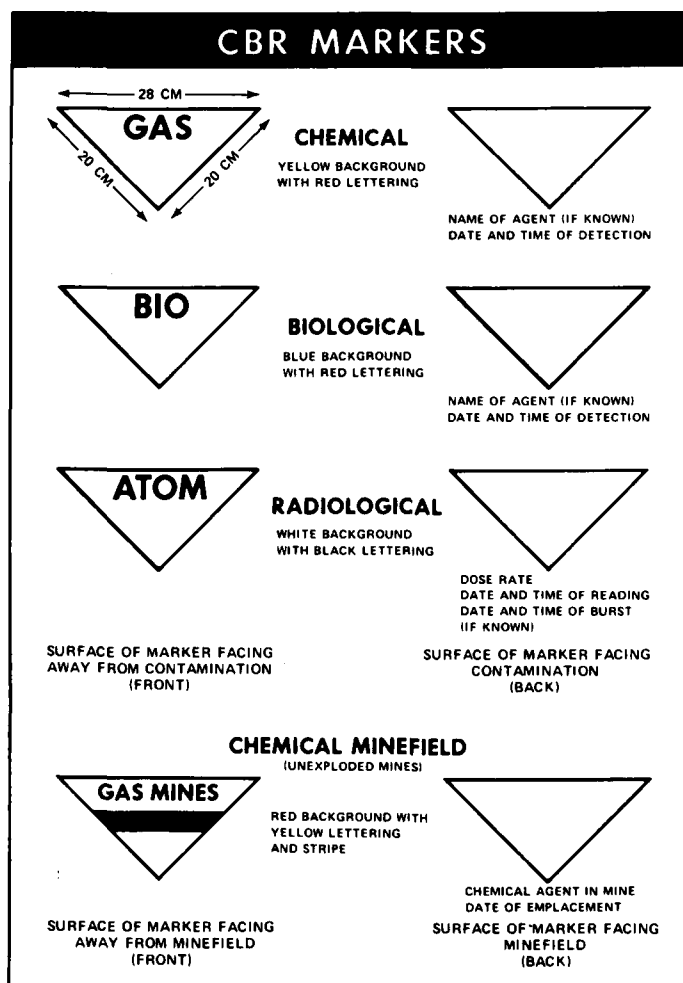

Figure 4. Markers for contaminated
- a. To protect yourself against the effects of chemical and biological agents and nuclear radiation, you must know what areas are contaminated. Standard markers (fig. 4) are used to mark contaminated areas. Study these markers, until you can easily recognize them. Remember, however, that contaminated areas may not be marked, and you must be alert for any indication of possible contamination.
- b. Description. The markers are right-angled isosceles triangles with a base of 28 centimeters (approximately 11-1/2 inches) and sides of 20 centimeters (approximately 8 inches). The color of the marker and the word on the front indicate the type of contamination in an area. The words to be used are GAS for chemical, BIO for biological, and ATOM for radiological contamination. Information concerning the contamination will be added to the front of the marker. The identifying colors and words as well as the information to be placed on the front of each marker are included in figure 4. The standard markers will be made of wood, metal, plastic, composition board, or other rigid materials. If standard markers are not available, expedients containing the same information may be made of any suitable material.